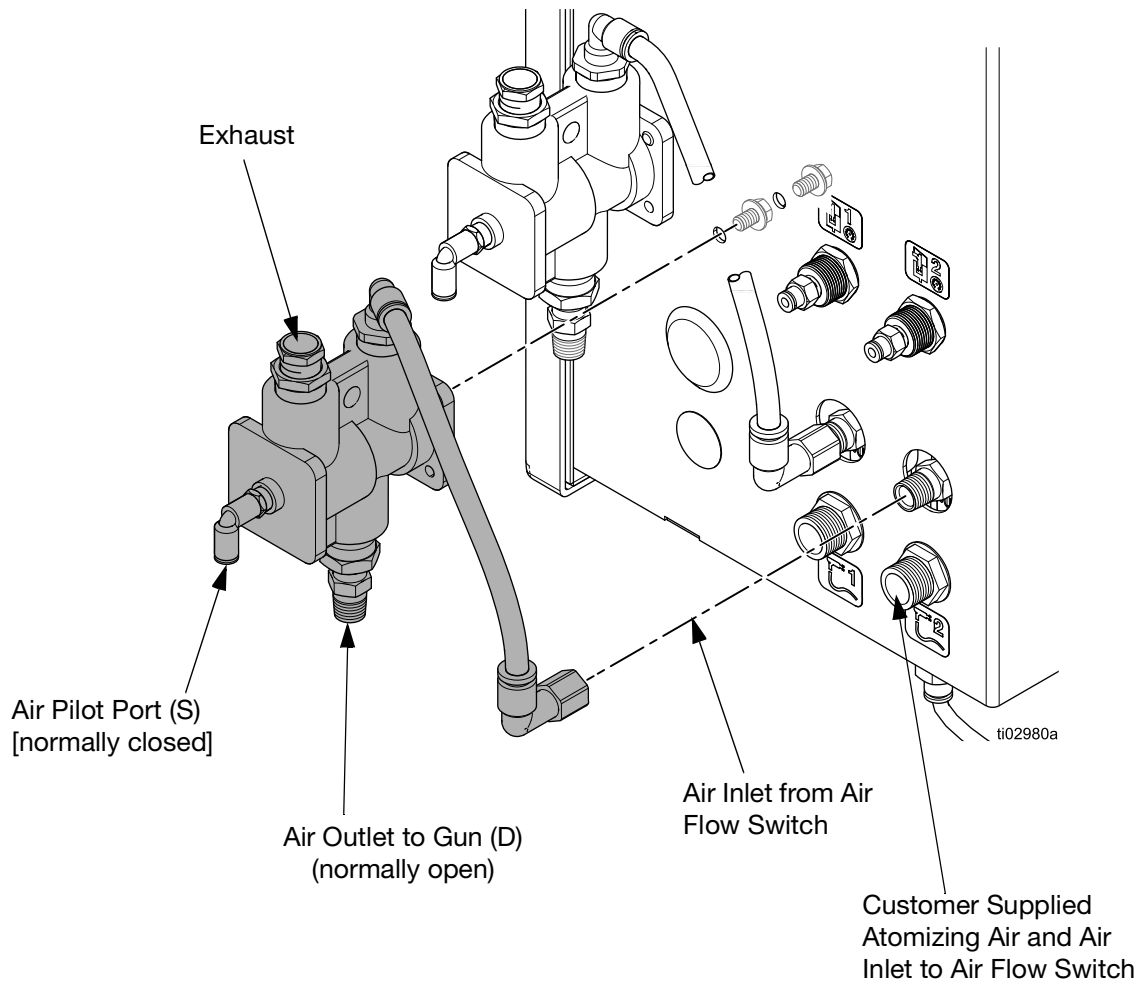

FIG. 29: Air Safety Shutoff Valve
1. See FIG. 25. Connect a 1/4 npt atomizing air line (D) from the AFS outlet nipple (103) to the air inlet port of the air safety shutoff valve (E, also see FIG. 29). Connect another length of atomizing air line (D) from the safety valve outlet port to the gun (G) air inlet.
2. Connect the gun atomizing air from the ProMix V air flow switch to the safety shutoff valve IN port. See FIG. 25 and FIG. 29.
3. Connect an atomizing air line (D) from the safety shutoff valve OUT port to the gun air inlet.
4. From the **S** fitting to the atomizing air safety shutoff valve pilot port (FIG. 29).